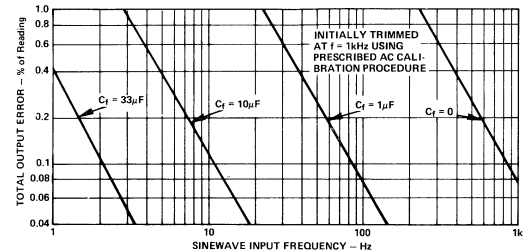

Figure 6. Trimmed Output Error at Low Frequency Versus C_f
Figure 6 shows output error versus frequency with external filter capacitor (C_f) as a parameter. This capacitor reduces low frequency error without affecting high frequency accuracy. To select C_f , the lowest frequency component of the input signal (f_L) is determined. Model 442's averaging time constant, $\tau(ms) = 1.5 + 15C_f (\mu F)$, is selected to be approximately 10 times the period of f_L . Low leakage capacitors, such as tantalum electrolytic, are recommended.
3. Calculate values of C_f , C_2 and C_3 : $C_f = C_1 - 0.1\mu F$; $C_2 = \frac{1}{2}C_1$; $C_3 = 0.7C_2$. Refer to Figure 6 to estimate the low frequency errors corresponding to the selected value of C_f .